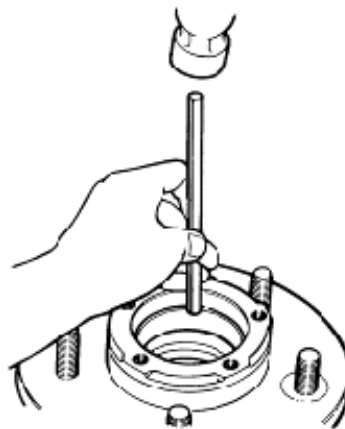

Figure 96 Bearing Cup Installation
- a. Install the bearing cups using a suitable drift or press, ensuring that the wide sides are towards each other (Figure 96).